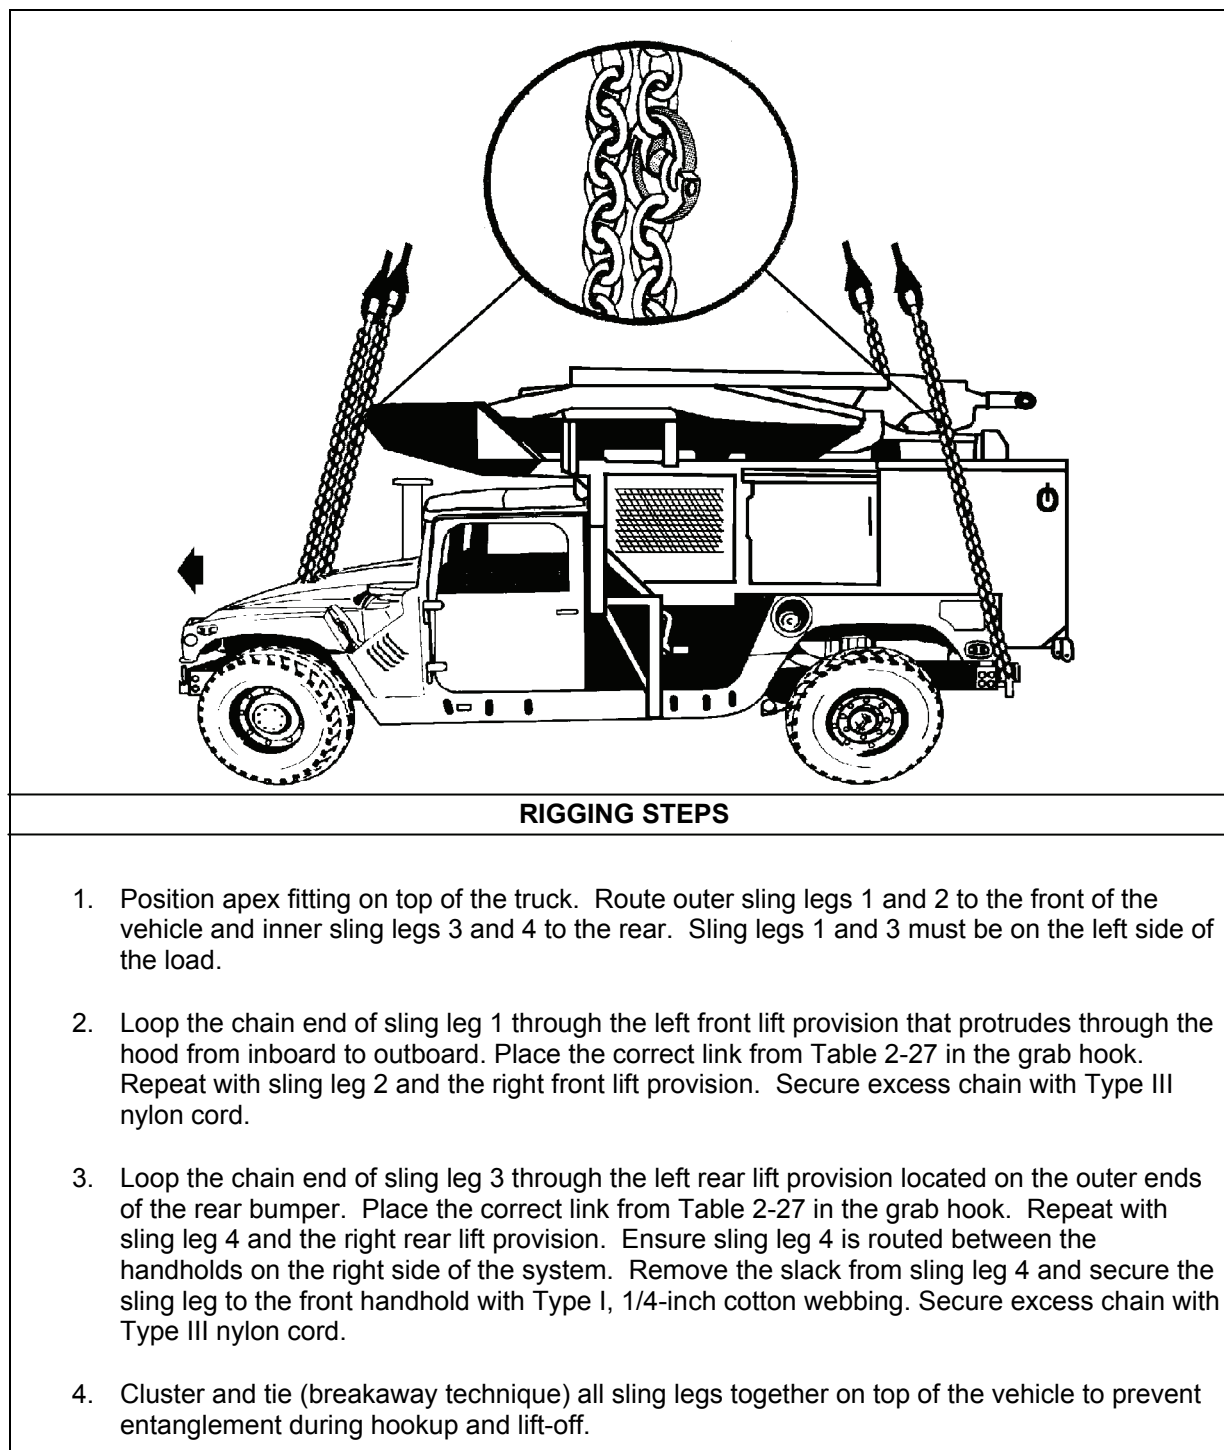

Figure 2-26. Trojan Spirit Lite (V)2 Central Communications AN/TSQ-226 (V)2 on M1113
- **Rigging.** Rig the load according to the steps in Figure 2-26.